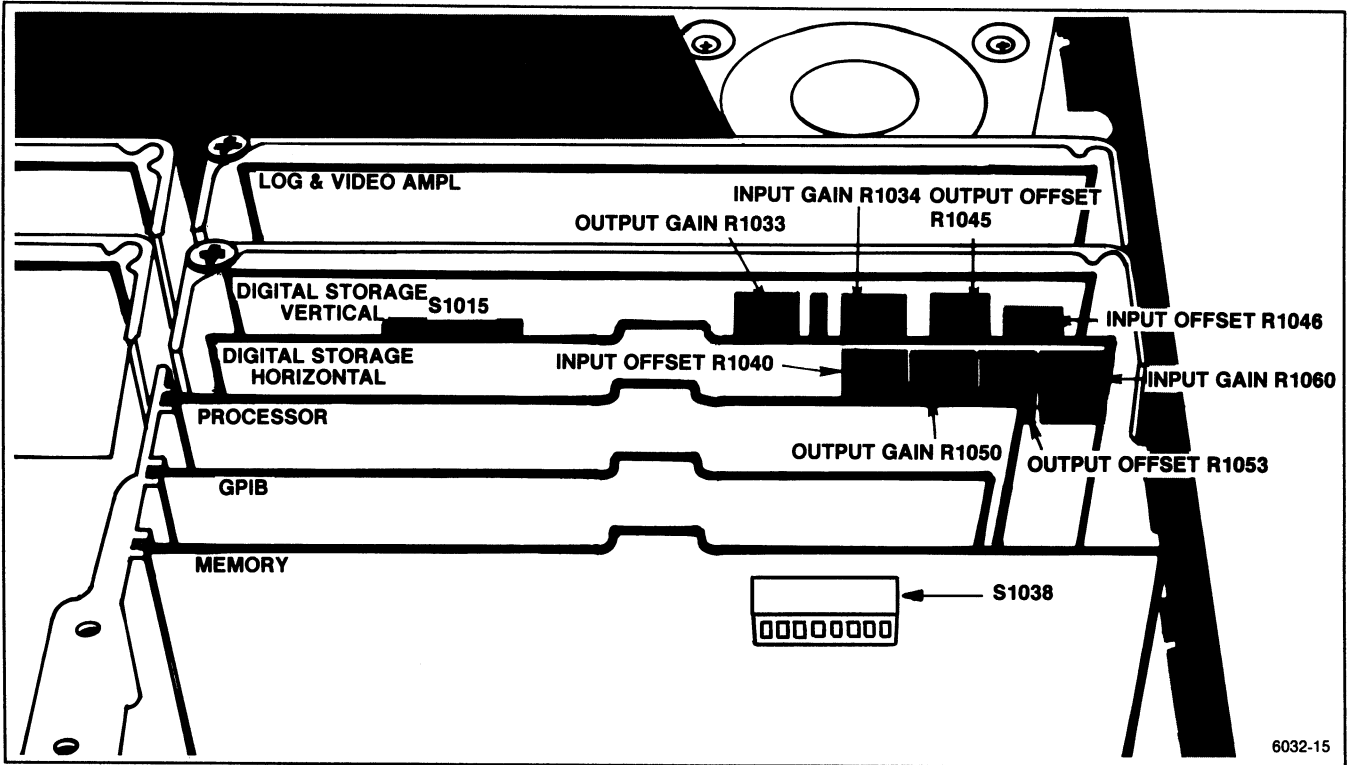

Figure 5-7. Digital storage adjustment locations.
d. Adjust Input Offset R1046 (Figure 5-7), on the Vertical Digital Storage board, to match the stored display to the non-stored display while repeatedly switching VIEW B on and off.
f. Adjust Input Gain R1034 (Figure 5-7), on the Vertical Digital Storage board, to match the stored display to the non-stored display.
i. Adjust Input Gain R1060, on the Horizontal Digital Storage board (Figure 5-7) to match the horizontal position of the stored signal to that of the non-stored signal.